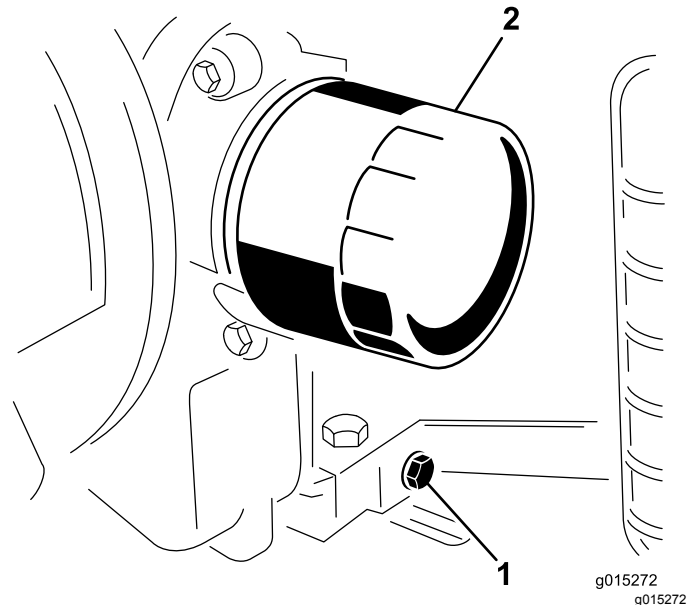

Figure 15
4. Place a pan below the oil drain. Remove the oil drain plug to allow the oil to drain (Figure 15).